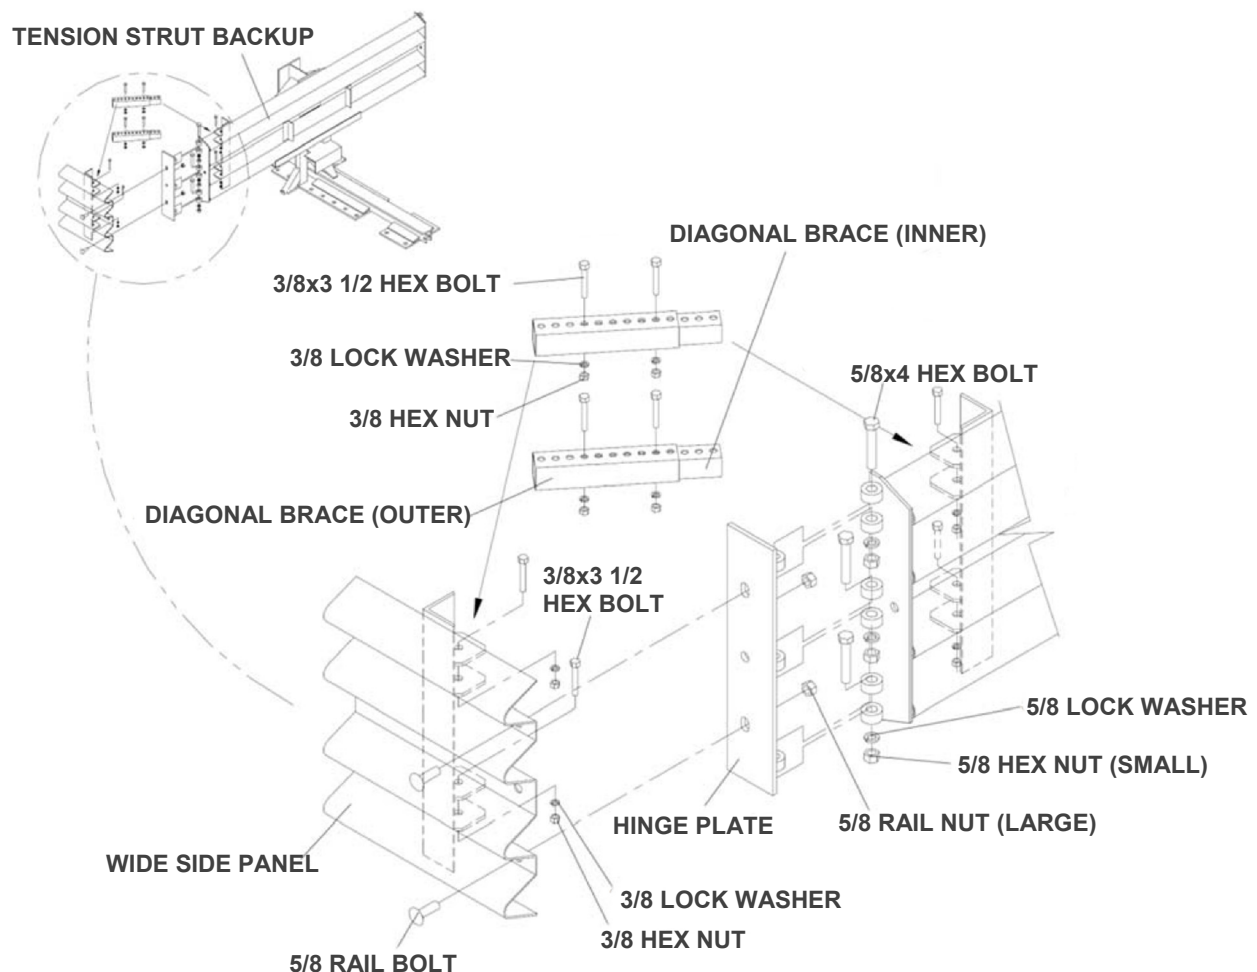

Figure 18
- A. Attach Hinge Plates to Backup (three (3) places on each side of Backup) using a 5/8" rail bolt, lock washer, and hex nut.
- C. Attach diagonal brace to Side Panel or transition and Backup using 3/8" a hex bolt, lock washer, and hex nut (two (2) places per brace and four (4) places per side).
- D. Secure each diagonal brace set in two (2) places with a 3/8" hex bolt, lock washer, and hex nut (Figure 18).